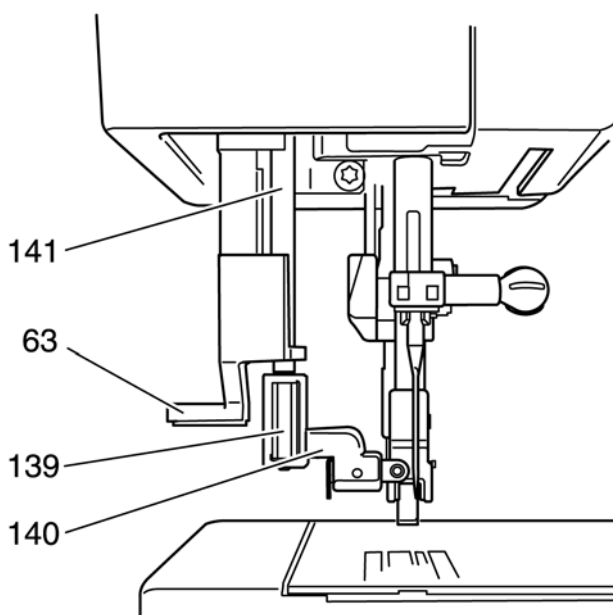

Fig. 114
- Presser threader key 63 down completely and keep it pressed (fig. 114).